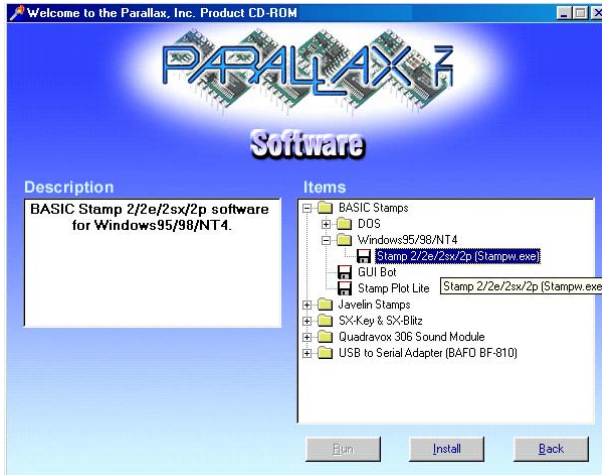

Figure 1-11
- √ Click the + next to the BASIC Stamps folder shown in Figure 1-11.